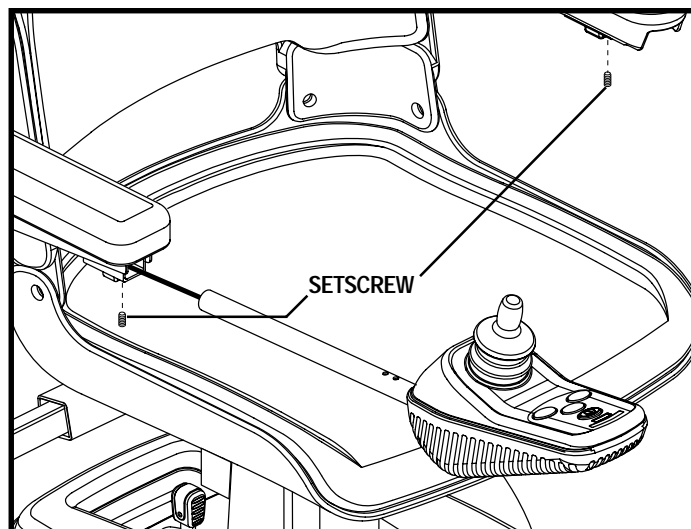

Figure 20. Controller Position
3. Flip up the armrest and loosen the setscrew. See figure 20.